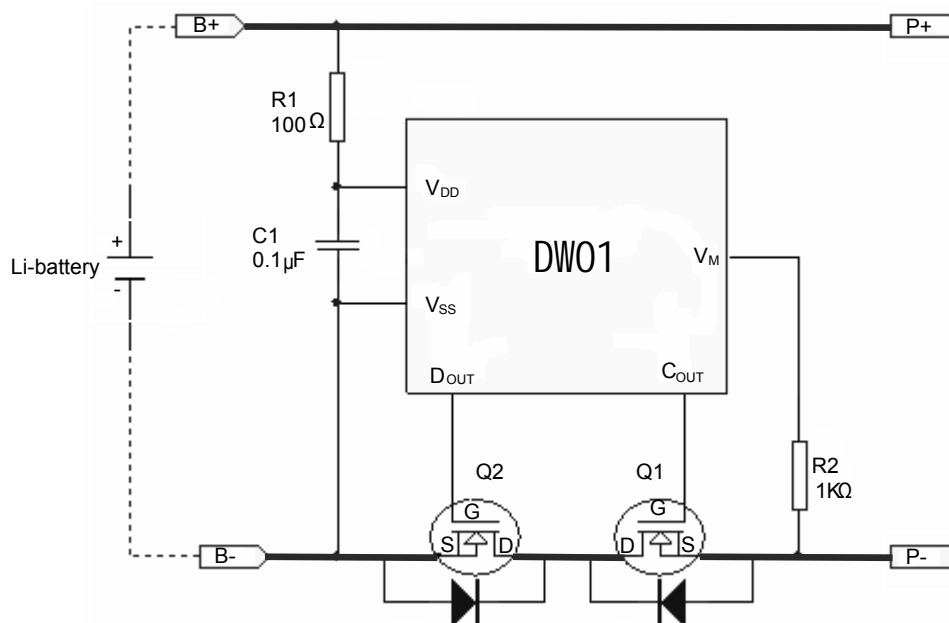
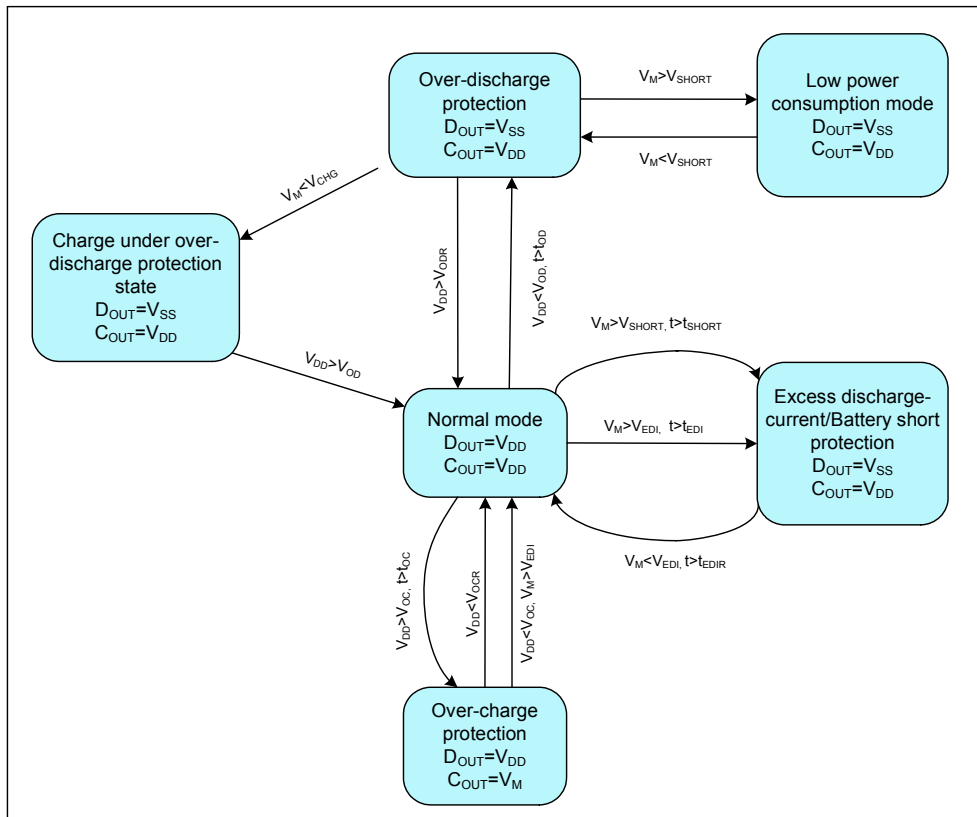

Figure 3 DW01 Typical Application Schematic
Figure 4 DW01 State Conversion Diagram
2. Shown in Figure 3.
DW01 is a high precision protection circuit for the one-cell Li-ion or Li-polymer battery. Under normal conditions, during the battery charging, DW01 may get into the over-charge protection. It resets to the normal condition when it reaches the release condition. During the battery discharging, DW01 may get into the over-discharge or excess-current discharge protection. It can also reset to the normal state when it reaches the release condition. Figure 3 shows the typical application schematic. The state conversion diagram is shown in Figure 4. The detailed description of each condition is followed.